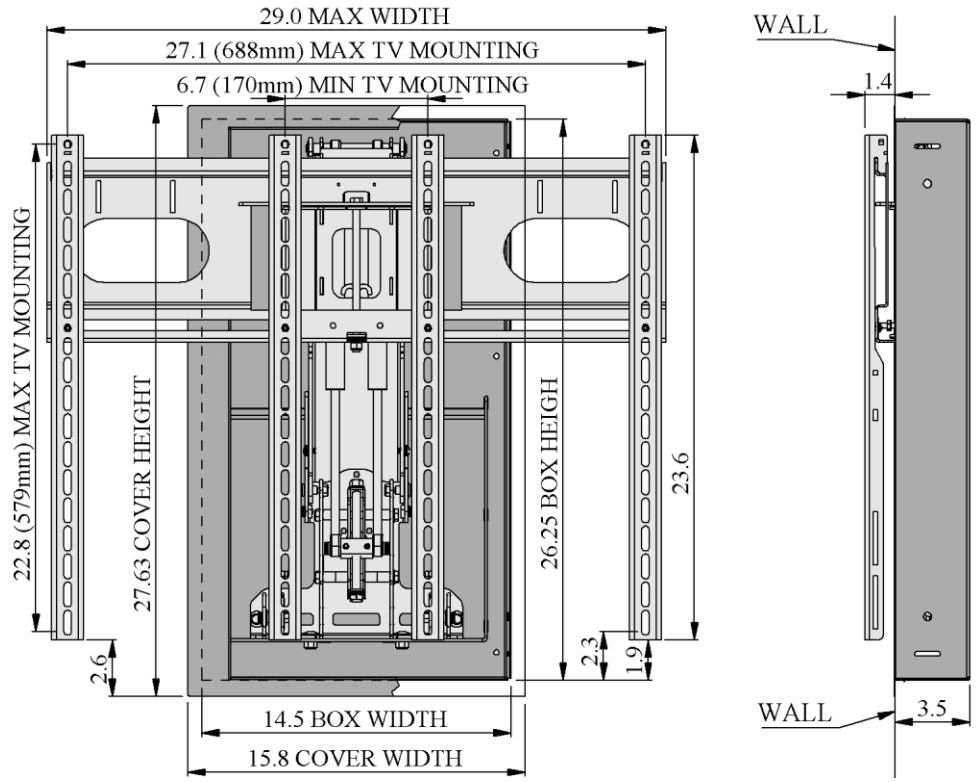

Figure 1, Mount Overall Size, Television Mounting Hole Pattern Range, Wall Mounting Hole Pattern Range
- **Note for smaller televisions;** the mount may be wider or taller than the television. If this is the case then the mount may be visible in the top position. See Figure 1
- Product Dimensions: 27.63 x 15.8 x 3.5 inches. See Figure 1